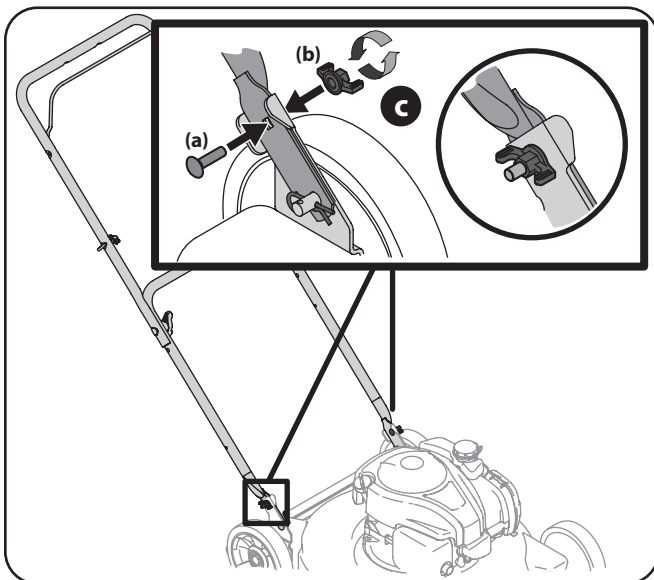

Figure 3-3
- c. Insert a carriage screw (a) from Group 1 in the Hardware Pack into the upper hole on the handle mounting bracket. Secure with one plastic wing nut (b) from Group 1. See Figure 3-3. Repeat on other side with remaining hardware from Group 1.